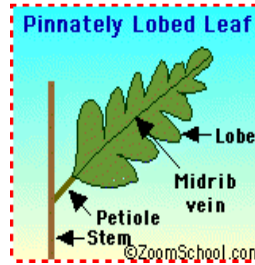

Figure 15.
**PINNATELY LOBED LEAVES** have many lobes arranged along the midrib. Refer to Figure 15.